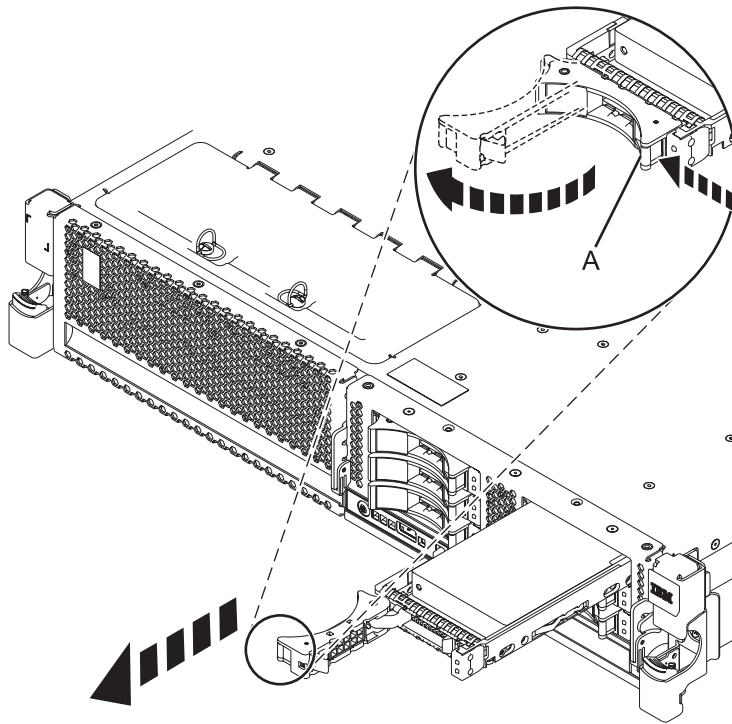

Figure 28. Removing a disk drive from the system
- a. When the identify LED flashes, unlock the drive handle by squeezing it and pulling it out toward you, as shown in Figure 28 on page 43.